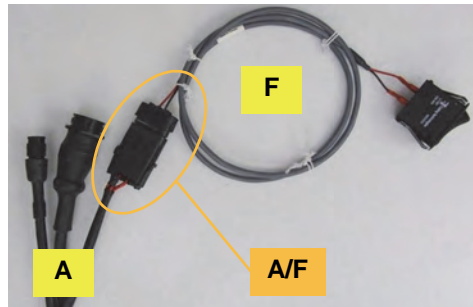

Figure 1c: Connecting the power switch cable
- c. Connect power switch cable **F** to the 4-pin connector on interface cable **A** (Figure 1c).